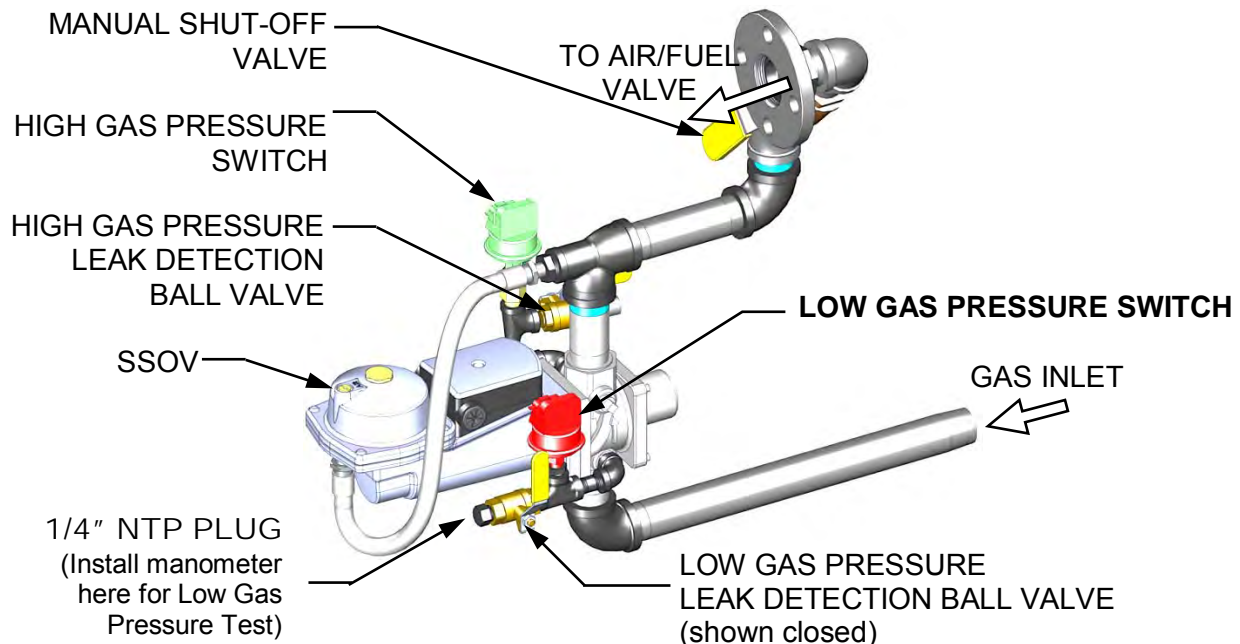

Figure 6-1A: Low Gas Pressure Fault Test – NATURAL GAS Gas Train Shown
Refer to Figure 6-1A and ensure that the leak detection ball valve located at the **Low Gas Pressure** switch is closed on both the Natural Gas and Propane gas trains.
1. Remove the 1/4" plug from the leak detection ball valve at the **Low Gas Pressure** switch, shown in Figure 6-1A.